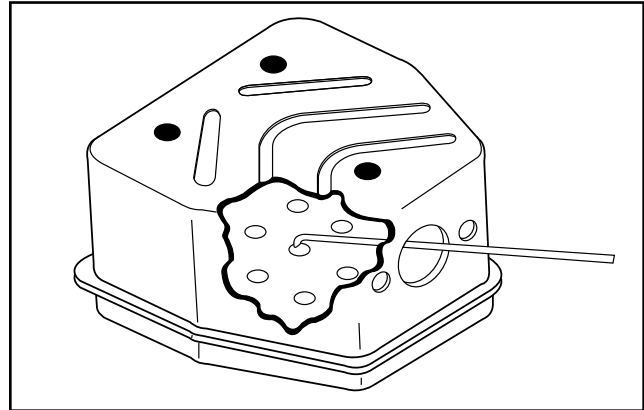

Fig. 37
2. Inspect the baffle inside the muffler for carbon build-up. Clean baffle by scraping carbon as required. Use a piece of wire to clear obstructions from the small holes in baffle (Fig. 37).